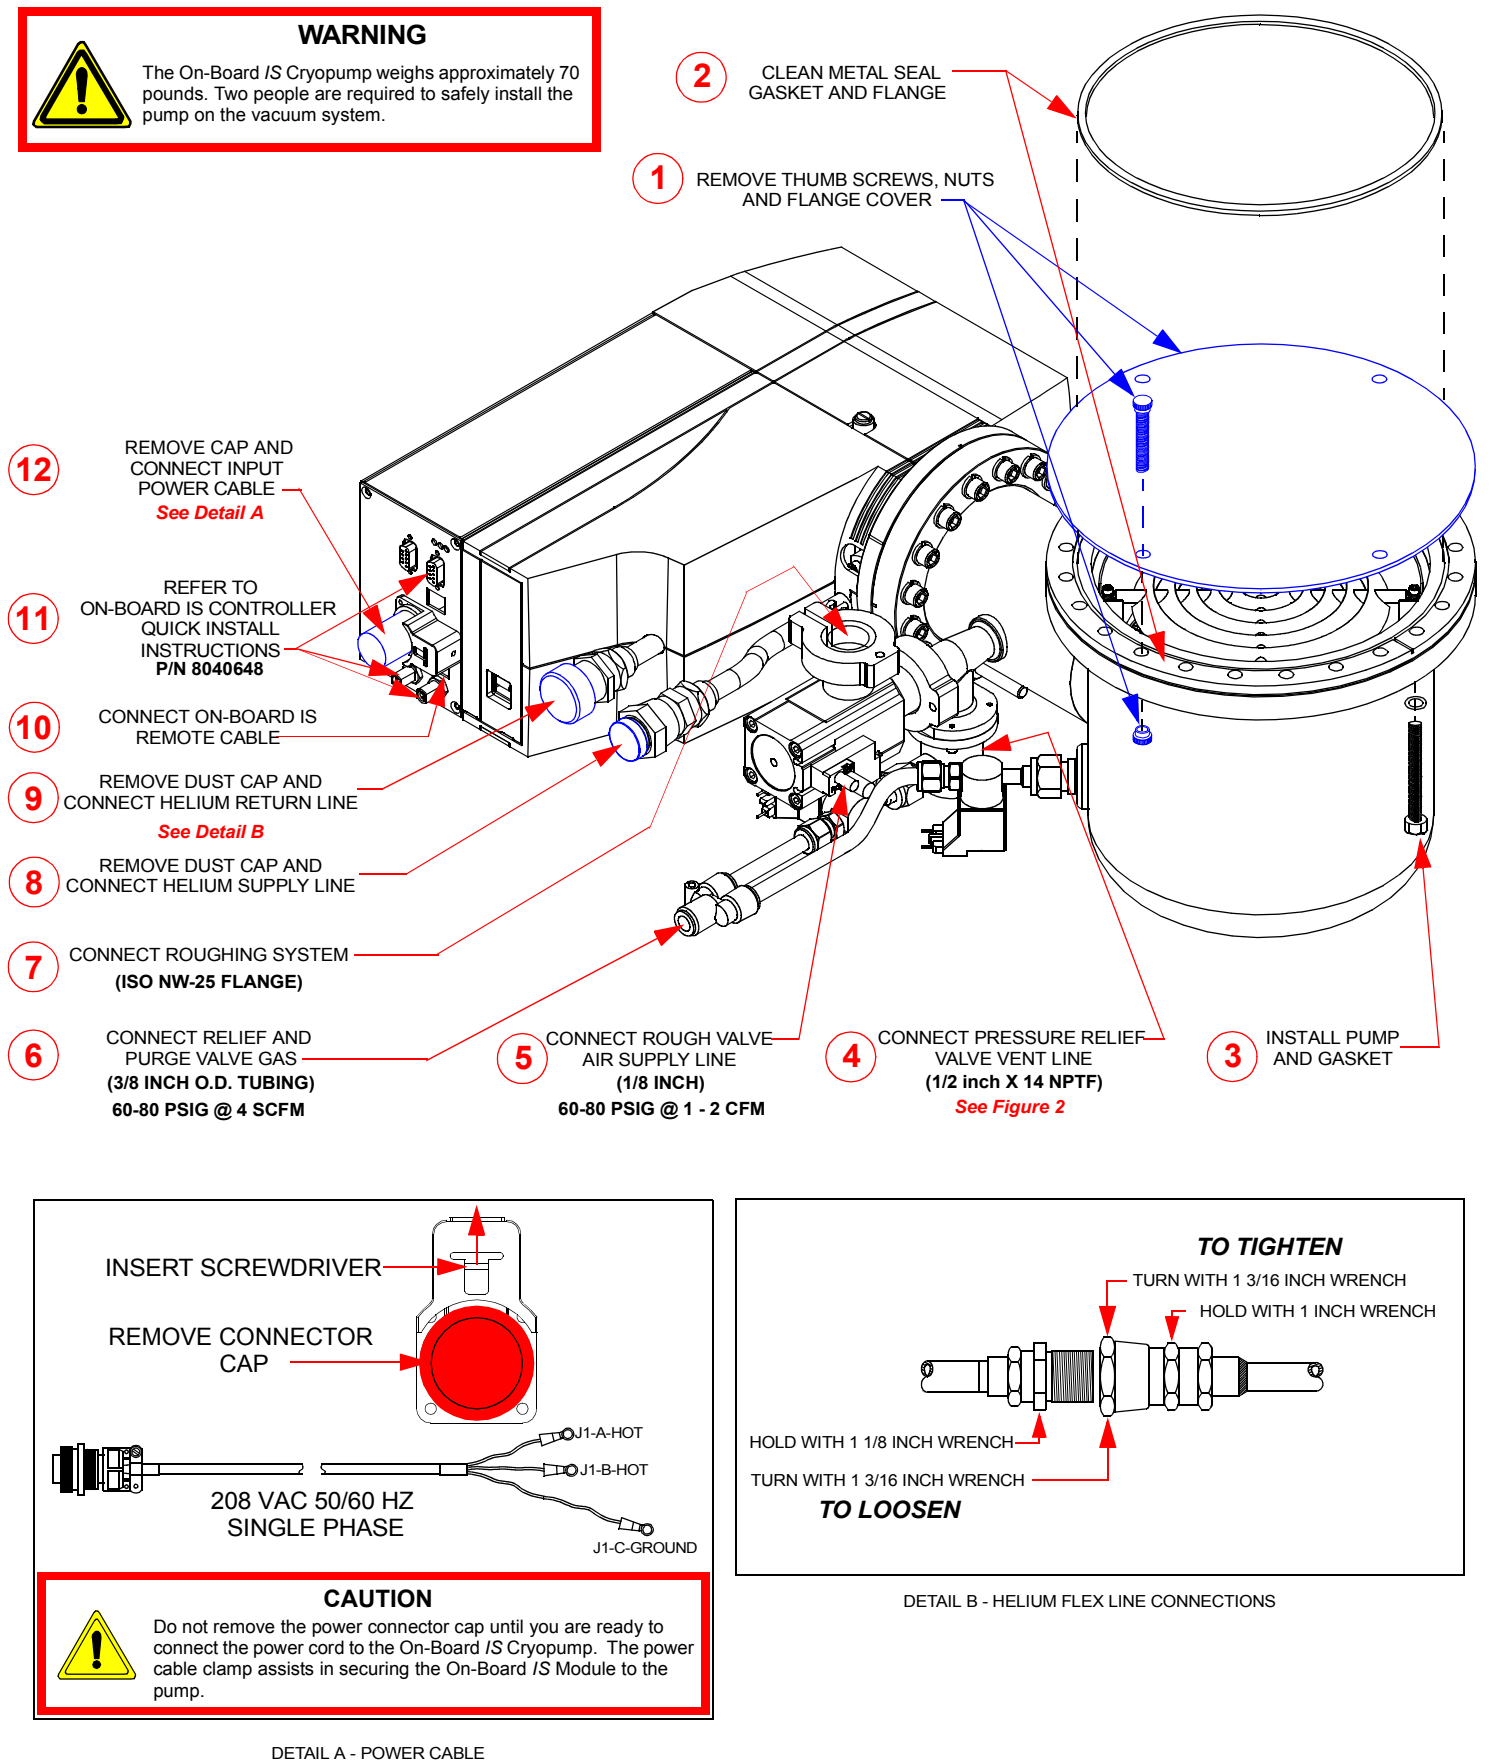

Figure 1: On-Board IS 8F Cryopump Installation Steps
Make sure the helium flex lines are connected and disconnected using the method shown in Figure 1, Detail B. Failure to follow this method could damage connector O-ring seals or cause a helium circuit leak.
1. Refer to Figure 1, Detail A and connect the Input Power Cable to a 208 VAC source.
2. Insert a flat blade screw driver into the input power connector on the On-Board *IS* Cryopump Module as shown in Figure 1, Detail A.
Follow the numbered steps in Figure 1 to install the On-Board IS Cryopump.